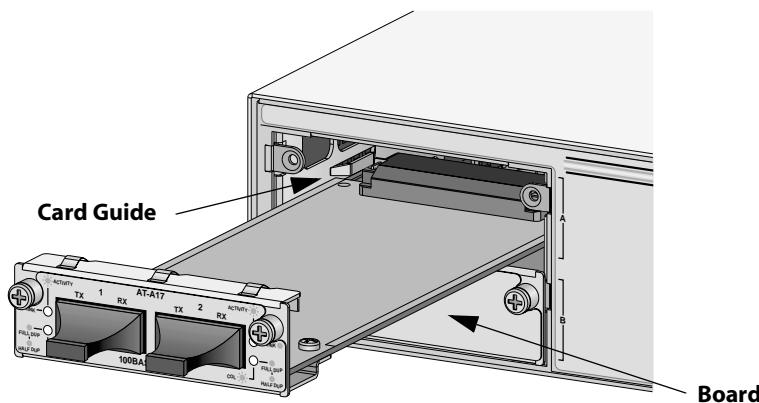

Figure 16 Installing an Expansion Module
4. Slide the expansion module into the empty slot making sure the board is aligned properly with the card guides. Refer to Figure 16.